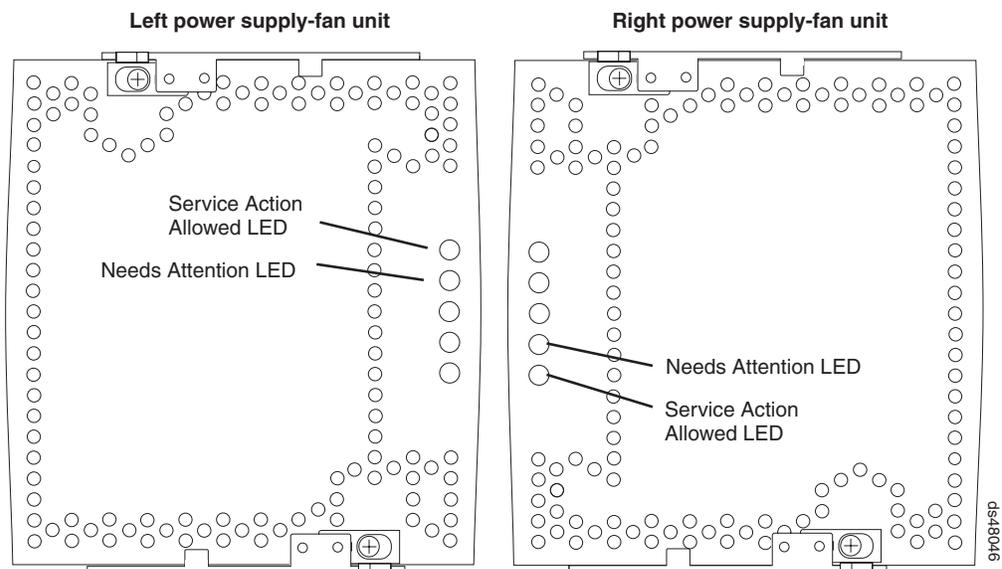

Figure 66. Power supply-fan Needs Attention LEDs
5. Check the Needs Attention LED on each power supply-fan. (Figure 66 shows the location of the Needs Attention LEDs.)